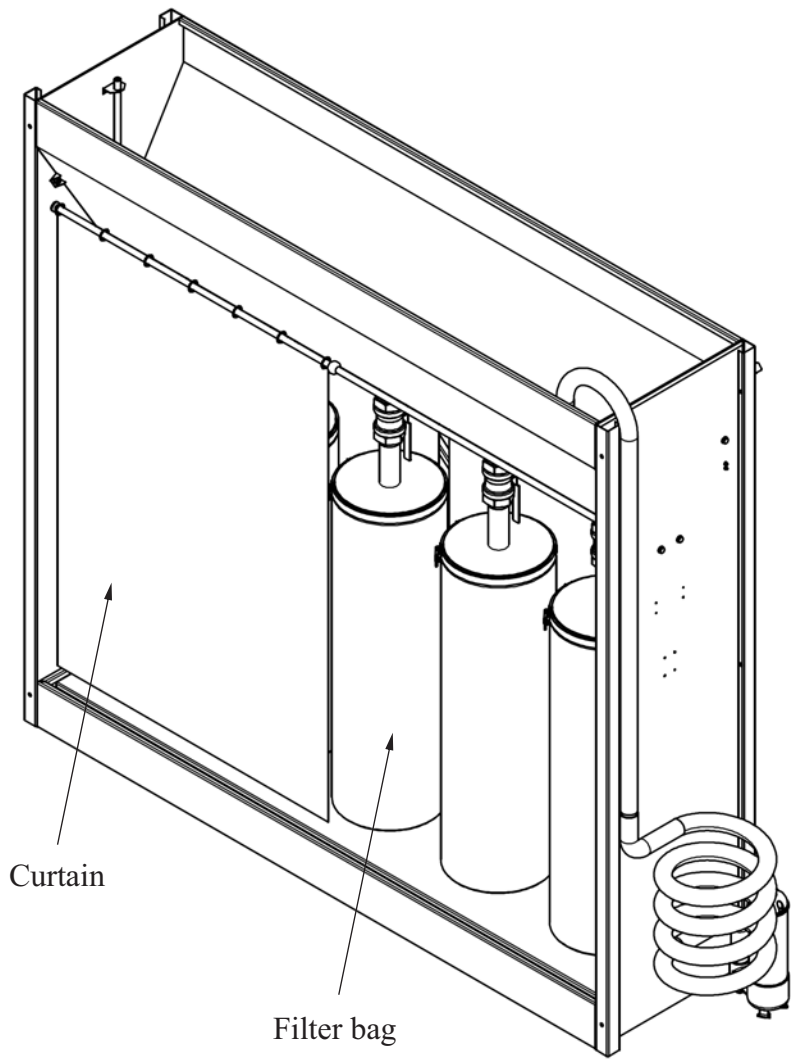

Figure 5
Step 5: Attach the disk first and fit the filter bag into the disk. Then, mount the rods on both sides of the dehydrator and hang the curtains on (Figure 5).